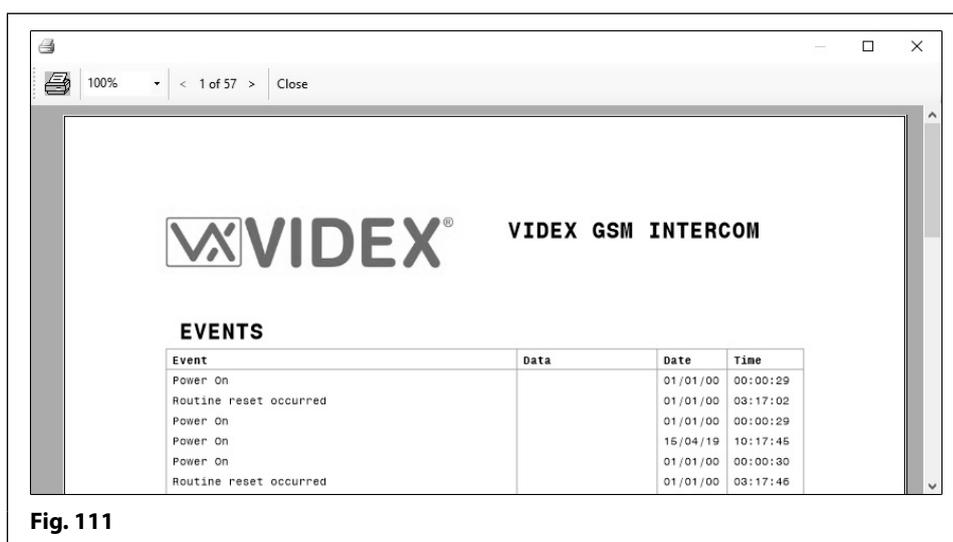

Fig. 111
- After a brief delay the print window will appear (**Fig.111**) displaying the list of events. Use the left (<) and right (>) buttons at the top of the window to scroll through the pages of events.